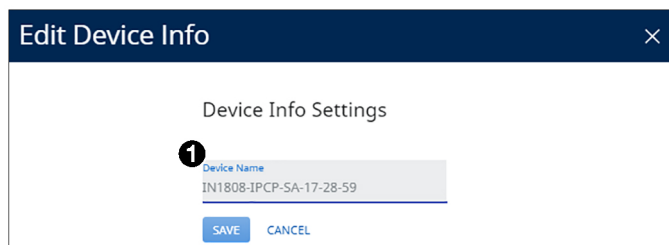

Figure 48. Device Info Settings Dialog Box
1. Click on the default name in the **Device Name** field (see figure 48, ❶). A cursor appears. (The default name is the model name followed by -xx-xx-xx, where xx-xx-xx are the last six characters of the unit MAC address.)